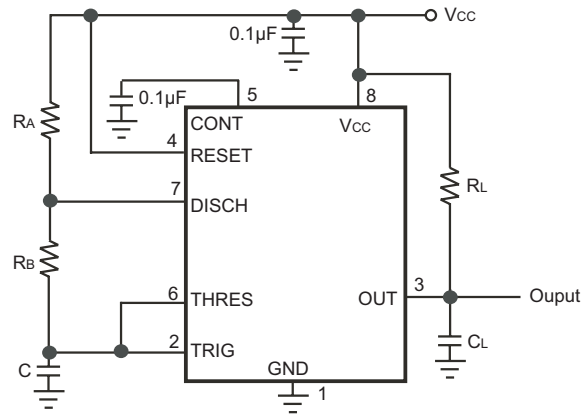

Figure 5. Circuit for Astable Operation
**Note 1:** RL ,CL are defined in Figure 5.
As shown in Figure 5, adding a second resistor,  $R_B$ , connecting the TRIG input to the THRES input causes the timer to self-trigger and run as a multi-vibrator. The capacitor C charges through  $R_A$  and  $R_B$  and then discharges through  $R_B$  only. Therefore, the duty cycle is controlled by the values of  $R_A$  and  $R_B$ .